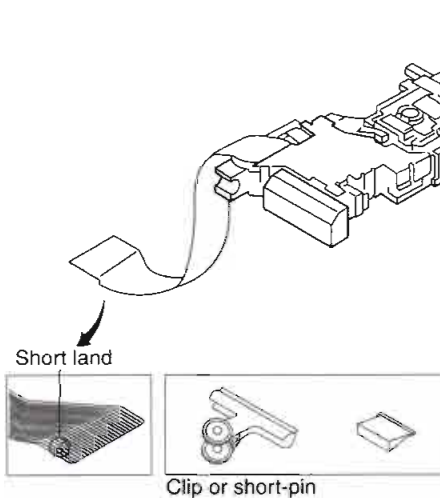

Fig. 1
2. The short land between the No. 25 (LD-GND) and No. 24 (LD) pins on the flexible board is shorted with a solder build-up to prevent damage to the laser diode. (Refer to Fig. 1.)